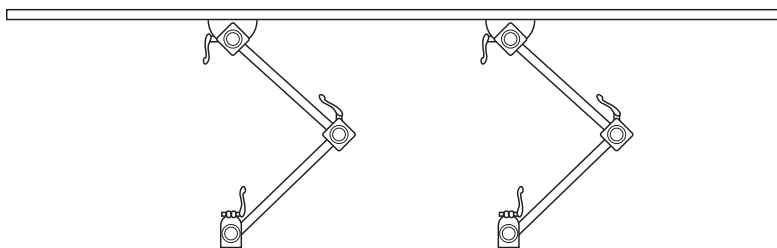

**Figure 6-17. Connecting SAS Pieces**
1. If the ski is in pieces, connect them together (Figure 6-17).